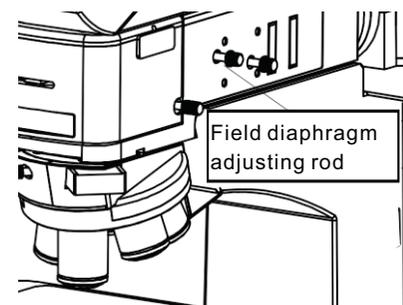
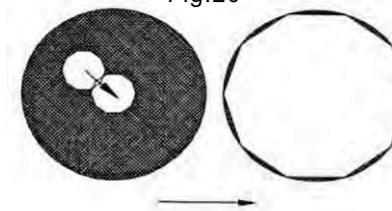

Fig.20
Fig.21
The field of view diaphragm limits the diameter of the beam entering the condenser, thus eliminating the peripheral light and enhancing the image contrast. When the imaging of the field aperture is just at the outer edge of the field of view, the objective lens can play the best performance and obtain the clearest image. (1) Turn the adjustment dial ① of the field diaphragm to the outermost end, that is, turn the field diaphragm to the minimum. (See Fig.20)
(2) Through eyepiece observation, the imaging of the field aperture can be seen in the field of view at this time.
(3) Adjust the left and right field diaphragm centering screws ② to adjust the image of the field diaphragm to the center of the field.
(4) Open the field diaphragm step by step. If the image of the field diaphragm is inscribed with the field of view, it means that the field diaphragm is correctly aligned. (See Fig.21)
(5) In practical use, slightly enlarge the field of view diaphragm so that its image is just tangent to the field of view. XY moves quickly in two directions. If you need to turn off the fast move function, press the fast switch button 3, and the clutch control lever 5 will reset, and the fast move function will stop.